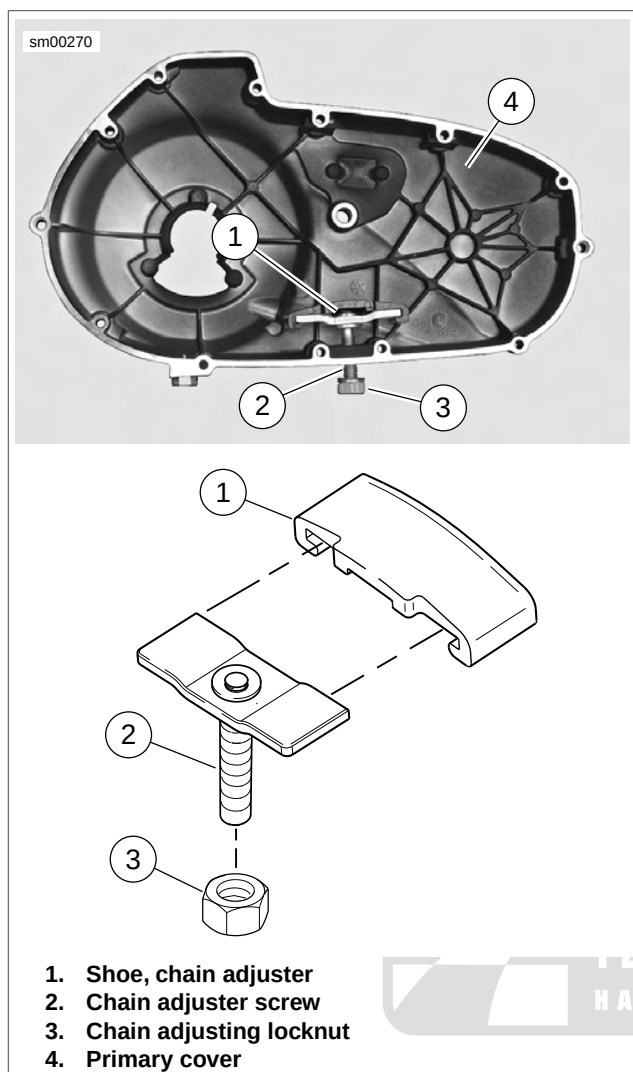

Figure 6-4. Primary Chain Adjuster
- See Figure 6-4. Remove locknut (3) from adjuster screw (2). Turn adjuster screw out of threaded boss in primary cover (4).
- Inspect primary chain adjuster shoe (1). If badly worn or damaged, it must be replaced.
- Position adjuster inside primary cover (4) with closed side of shoe against cover. Thread adjuster screw (2) all the way into tapped boss at bottom of primary cover.
- At outside of cover, thread locknut (3) onto adjuster screw with nylon sealing surface toward cover. A 1/4-inch allen